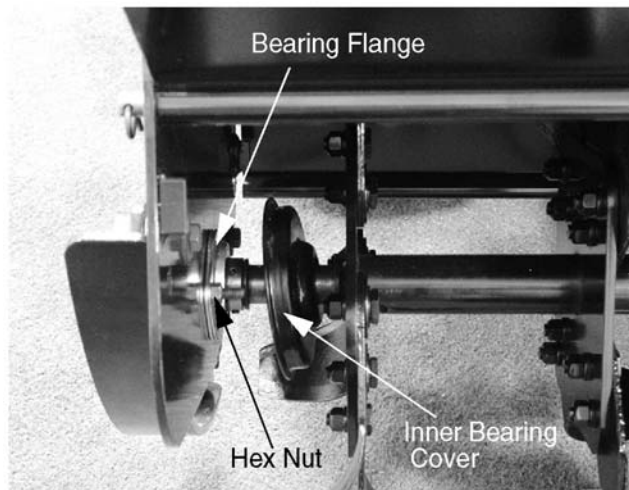

Figure 8-107.
- Remove both hex nuts securing the bearing flange to the tiller housing using two 1/2" wrenches. See Figure 8-107.